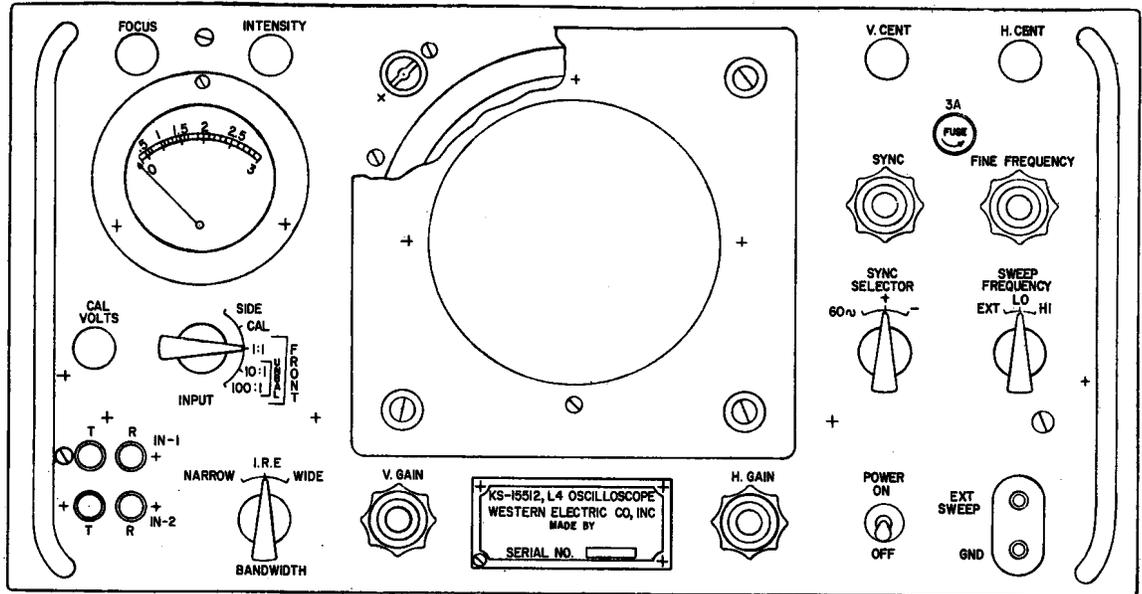

Fig. 2 — KS-15512, List 4 Oscilloscope — Front Panel
**2.04** The front panel consists of the following controls, symmetrically arranged about the 5-inch cathode ray display tube: (See Fig. 2).